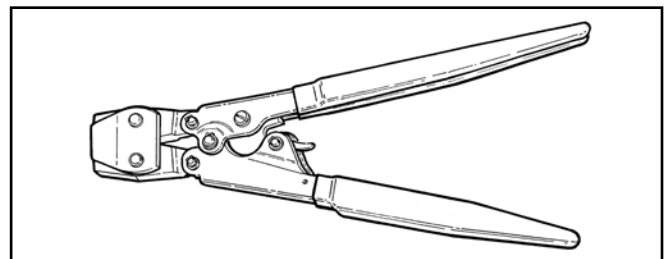

Fig. 3: Item no. 14100337
3. **DIY Economy 2-Handle Ratchet Pincer** (Fig. 3)